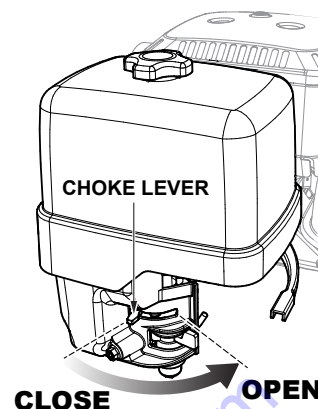

**Figure 17. Starter Grip**
- Grasp the starter grip (Figure 17) and slowly pull it out. The resistance becomes the hardest at a certain position, corresponding the compression point. Rewind the rope a little from that point and pull out sharply.